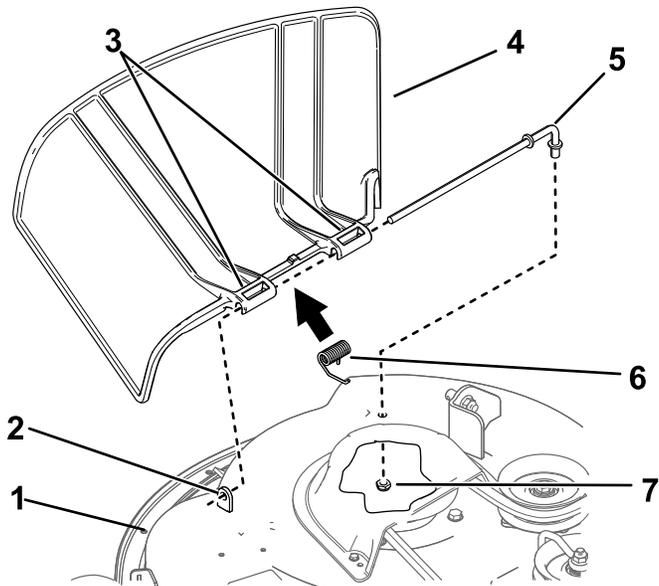

Figure 68
1. Remove the nut (3/8 inch) from the rod under the mower (Figure 68).
2. Slide the rod out of the short stand-off, spring, and grass deflector (Figure 68).
4. Install the new grass deflector (Figure 68).
7. Slide the rod through the second grass-deflector pivot (Figure 68).
9. Secure the rear end of the rod into the mower with a nut (3/8 inch) as shown in Figure 68.